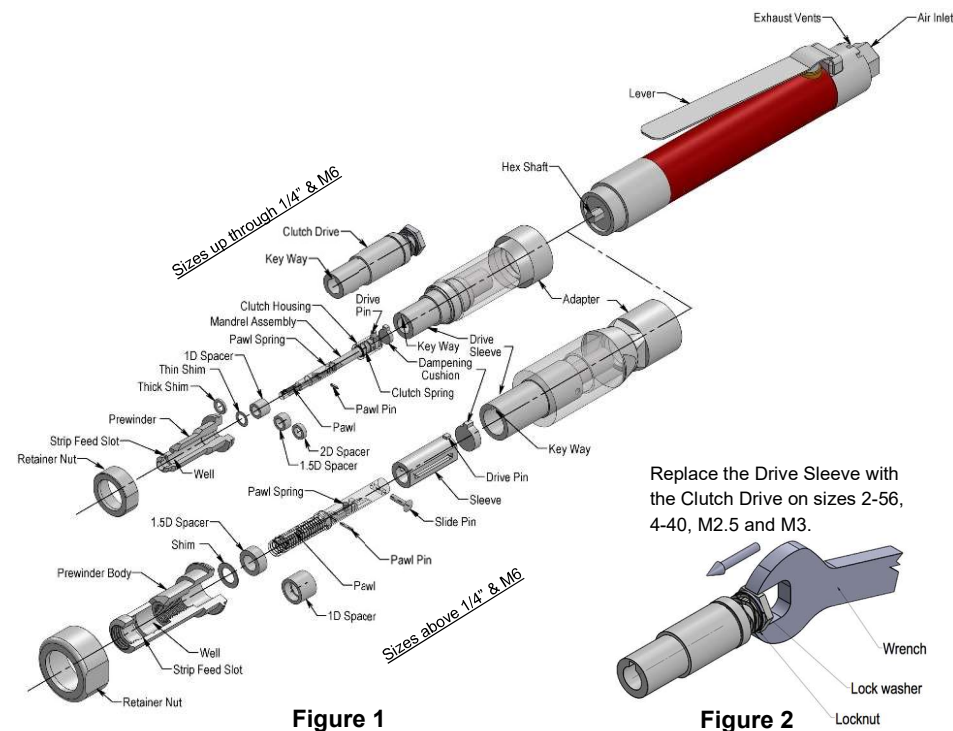

Figure 1
- If you are installing Tangless CoilThread inserts sizes 2-56, 4-40, M2.5, or M3, please replace the standard Drive Sleeve with the Clutch Drive (mandatory for these sizes), see Figure 1.
- 3 Plastic Dampening Cushions, (see Figure 1)
- 3 Slide Pins for sizes above 1/4" or M6, (see Figure 1)